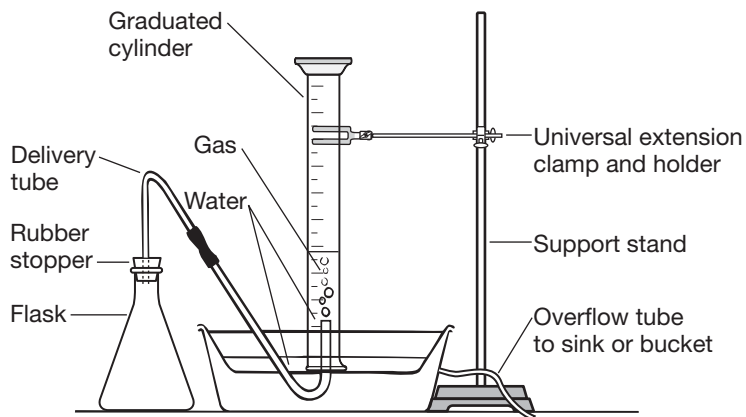

Figure 1.
1. Set up a gas delivery system for each lab station according to Figure 1. Fill the troughs with water to above the platform. *Note:* The graduated cylinder and Erlenmeyer flask will be put in place by the students after they have completed their calculations.